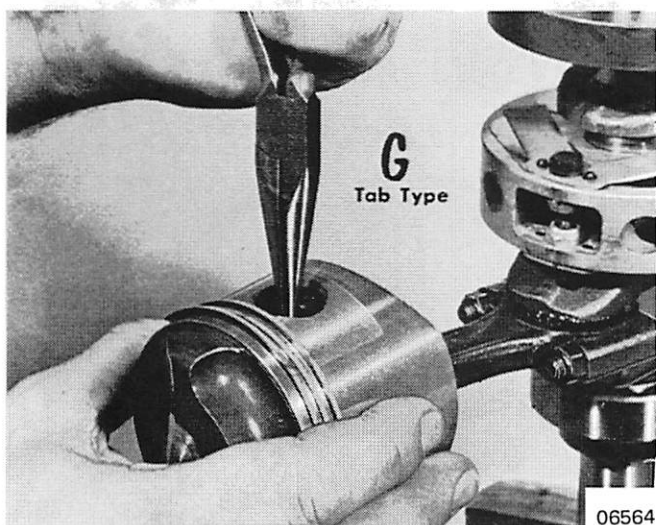

Figure 6. Installing "G" Type Piston Pin Lockring
15. Install new lockrings with needle nose pliers. Double check that ring is seated in groove. (Figure 6)